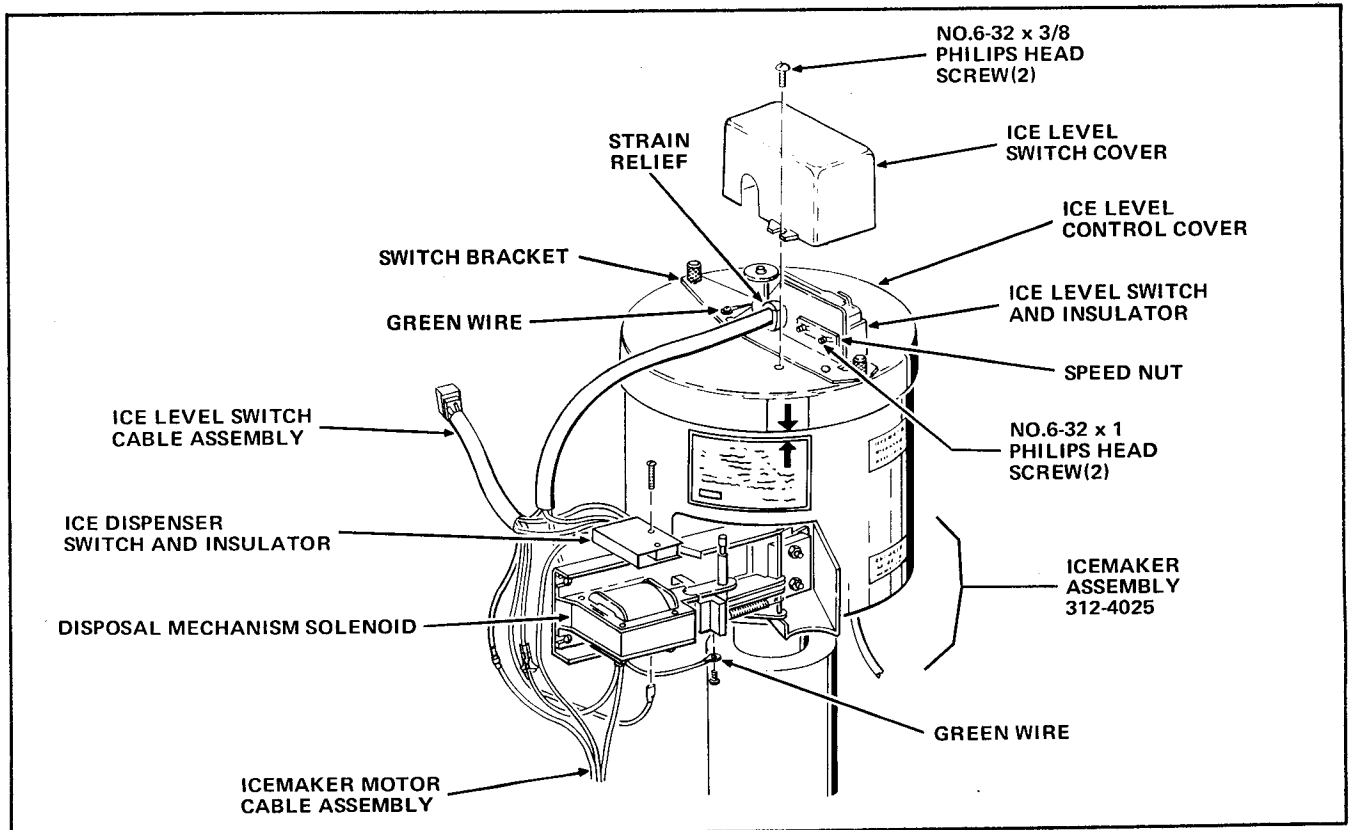

FIGURE III-1
1. Remove the 2 No.6-32 x 3/8" Philips Head Screws which attach the Ice Level Switch Cover to the Ice Level Control Cover on the replacement Icemaker Assembly, Part Number 312-4025, included in the Kit. See Figure III-1.